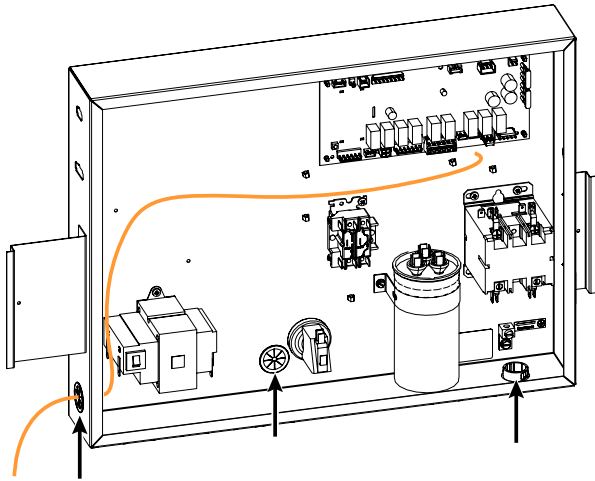

Figure 132. Grommets in Control Box
7. Use the grommets in the control box to run wires from inside the corner post to the inside of the box, up to the control board terminal(s). See Figure 132.